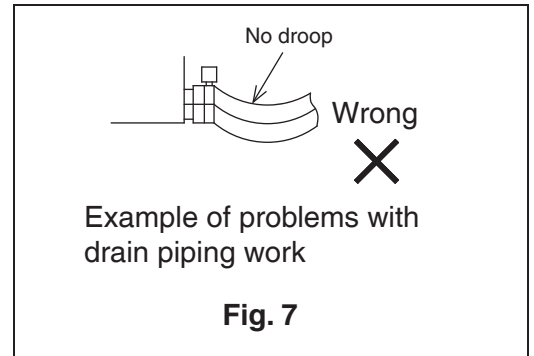

Fig. 7
- Do not allow the drain hose (4) to droop inside the BS unit. **(Refer to Fig. 7.)**